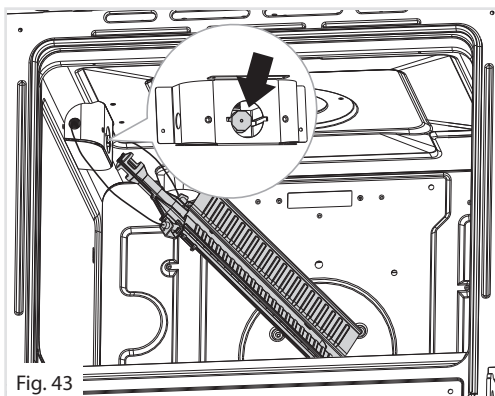

Fig. 43
- Withdraw the burner as shown in figure 43. Take care not to damage the safety valve probe and the electric ignition electrode.
- Using a 7 mm box spanner, unscrew the injector (indicated by the arrow in fig. 43) and replace it with a new one selected in accordance with the “Table for the choice of the injectors”.